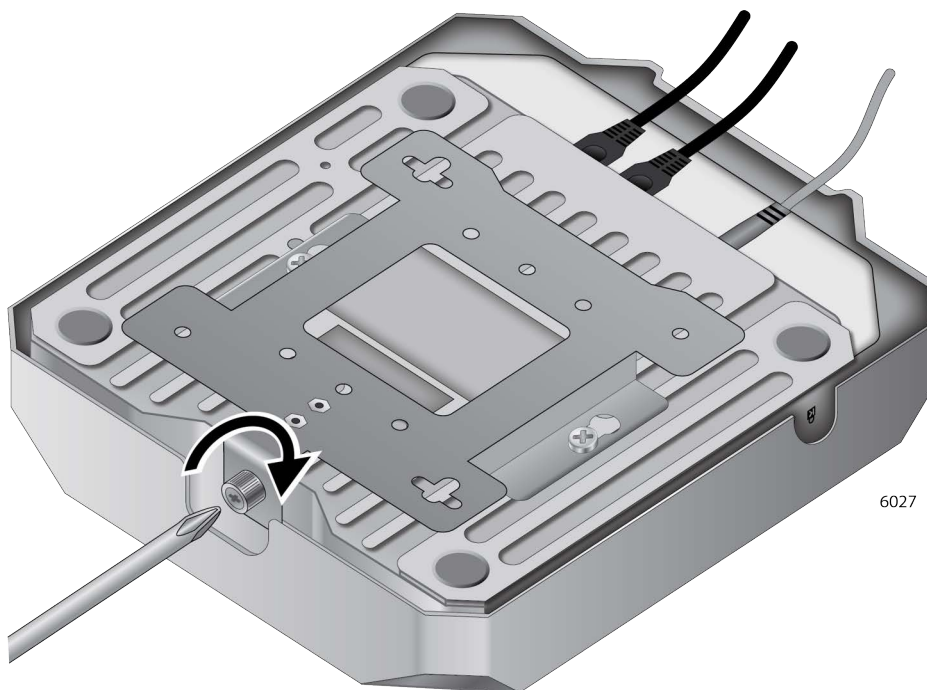

Figure 28. Tightening the Mounting Bracket Thumbscrew
3. Tighten the thumbscrew to secure the access point to the mounting bracket. Refer to Figure 28.